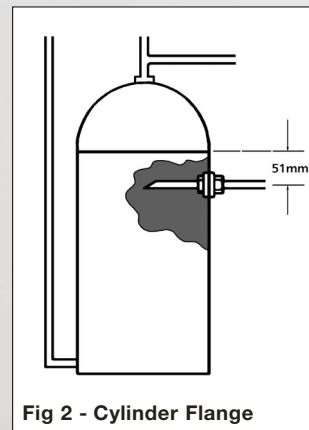

Fig 2 - Cylinder Flange
4. If this is not possible, a direct connection must be made from the hot water cylinder with a cylinder flange, Fig 2.